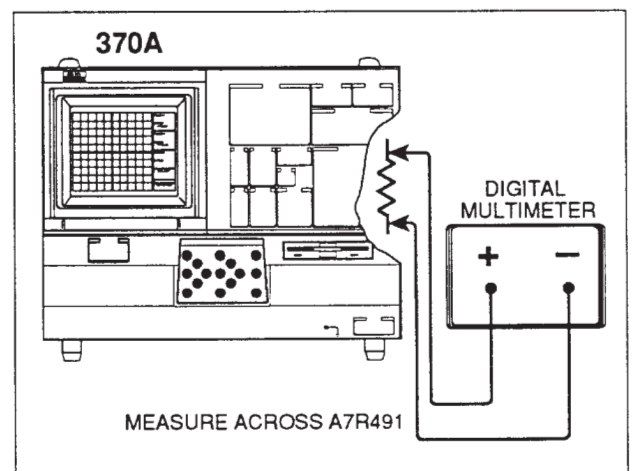

Figure 4-5. Adjusting for Current Amplifier Bias.
- Connect the Digital Multimeter across R491 on the A7 Step Generator Board as shown in Figure 4-5.